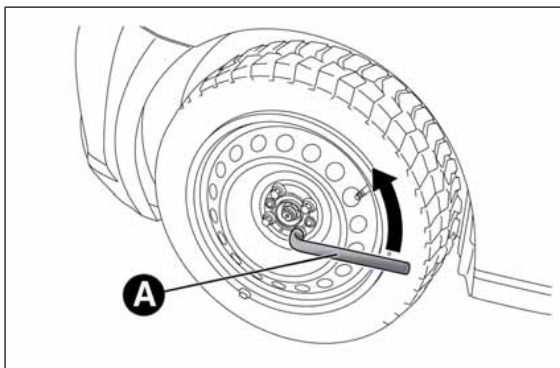
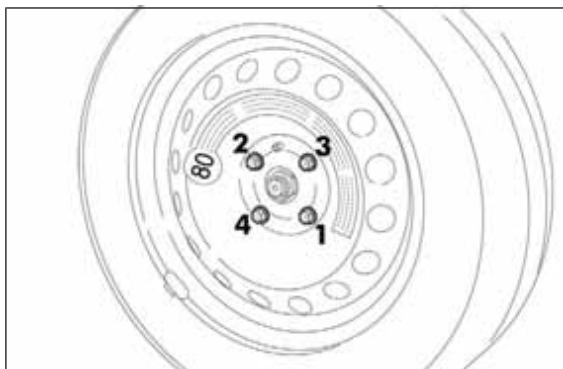

fig. 118
fig. 121
- take wrench A fig. 118 and loosen the fixing bolts by about one turn;
- take the wrench A fig. 118 and fully tighten the fixing bolts;
- use the wrench A fig. 118 provided to fully tighten the bolts in a criss-cross fashion as per the numerical sequence illustrated in fig. 121;
- tighten the retaining bolts using wrench A fig. 118;
- use wrench A fig. 118 to fully tighten the bolts, following the sequence illustrated in